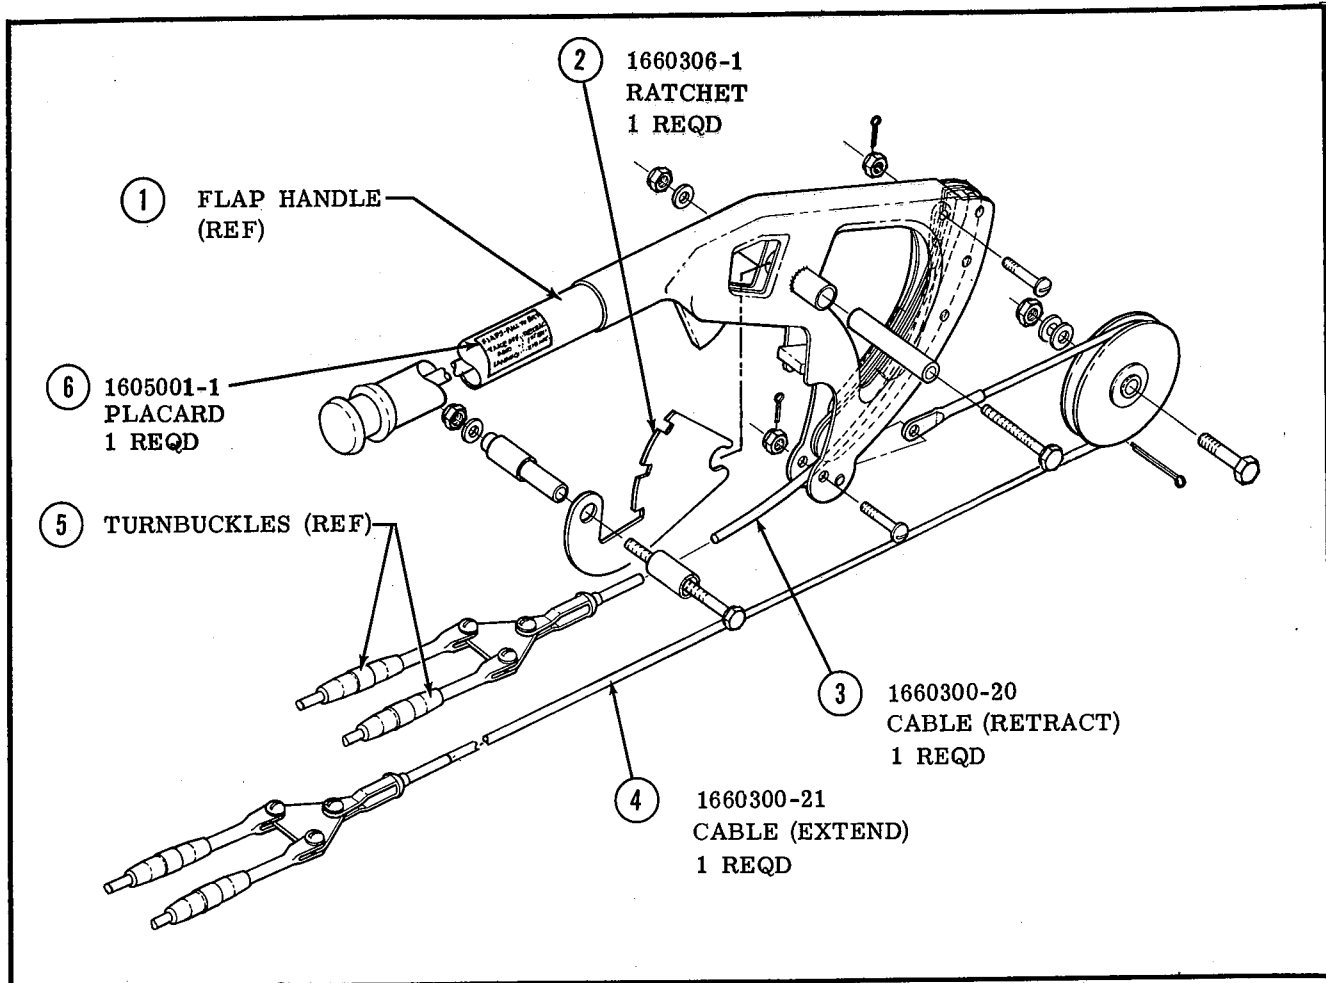

Figure 1. Ratchet and Cables Installation.
a. Ratchet and Cables Installation. (Refer to figure 1.)
- (1) Remove the seat assembly from the aircraft to provide adequate working space. Left hand side panel of aircraft may be removed also, if desired.
- (2) Release tension on flap cable system by loosening turnbuckles (5).
- (3) Remove existing ratchet and replace with new ratchet (2) using existing hardware.
- (4) Remove existing cables and replace with new cables (3) and (4) using existing hardware.
- (5) Set cable tension on new system at 30 lbs, plus 5, minus 0.
- (6) Set flap travel at 20° ± 1°.
- (7) Check system for proper operation and reinstall seat.
- (8) Remove existing placard from flap handle and apply placard (6).